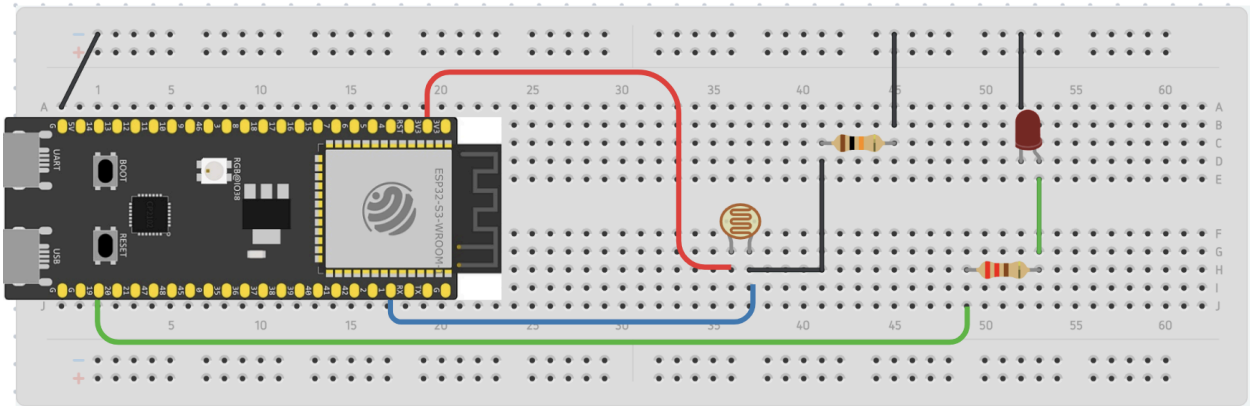

Figure 6: Photoresistor controlling an LED brightness
- Build the circuit according to *Figure 6* above: